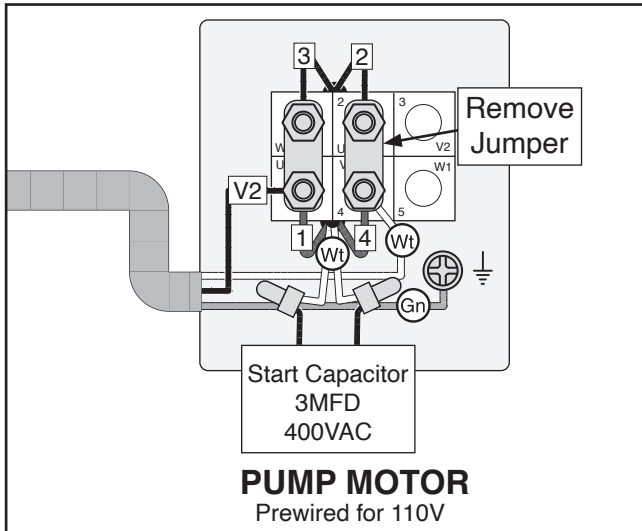

Figure 12. Location of jumper to remove.
- Remove jumper on pump motor, as indicated in **Figure 12**.